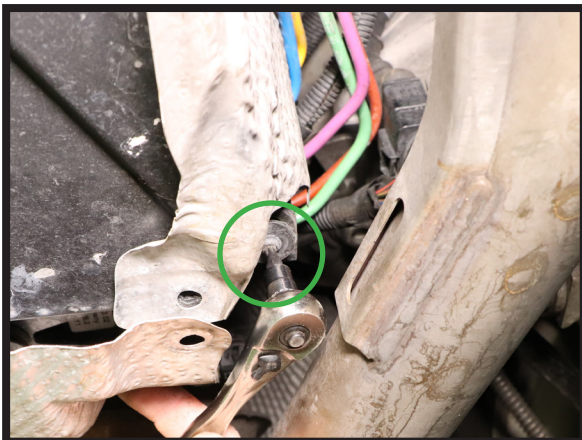

FIGURE 16
3. INSTALL THE NEW VALVE BLOCK & THREE (3) VALVE BLOCK BRACKET SCREWS. TIGHTEN TO MANUFACTURER'S SPECIFICATIONS. (FIGURES 16, 17, 18)